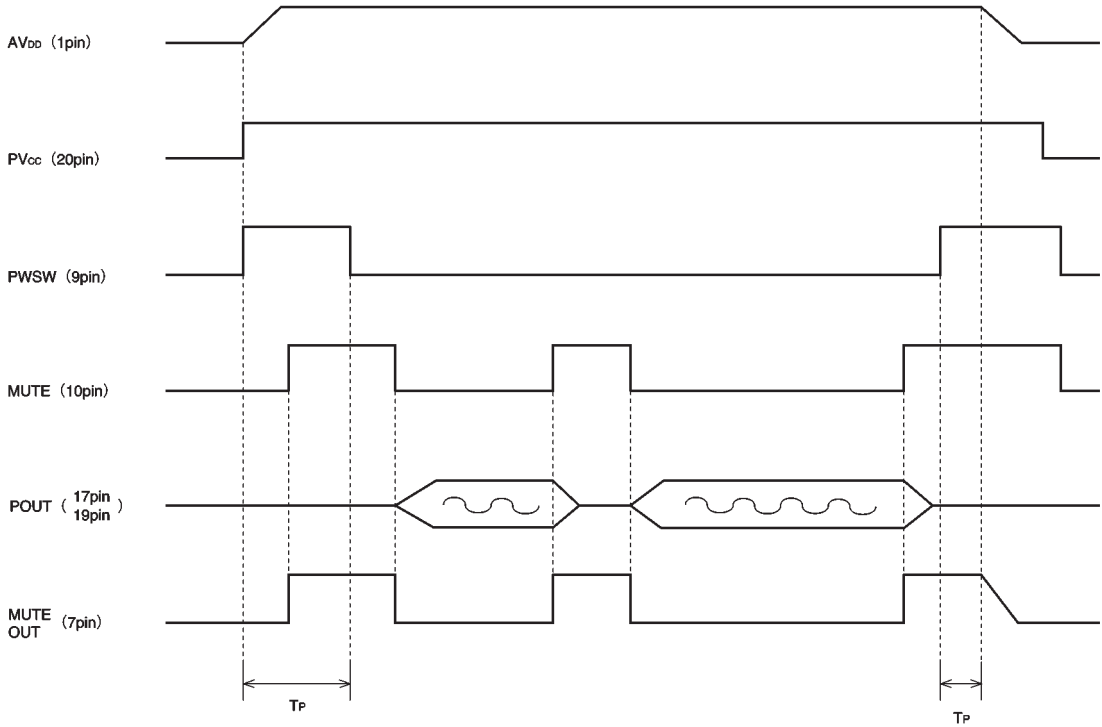

Fig.5 Timing chart
(1) By operating the BA3578FS and BA3579FS according to the timing chart shown in Fig. 5, it is possible to suppress generation of “pop” noise in the headphone output.